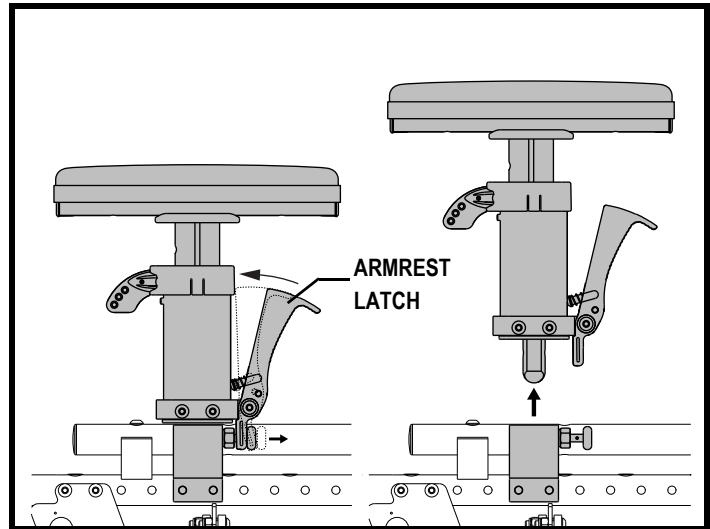

Figure 29. Drop-in Armrest Removal
1. Squeeze the armrest latch. See figure 29.